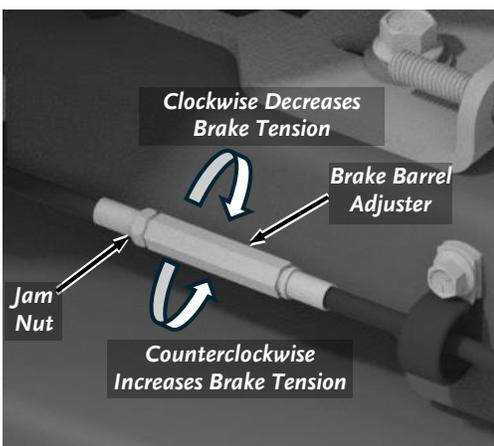

Figure 31
3. Hold the center hex section of the Brake Barrel Adjuster using a 3/8" Wrench and loosen the Jam Nut a few turns using a second 3/8" Wrench so it moves away from the Barrel Adjuster (**Figure 31**).